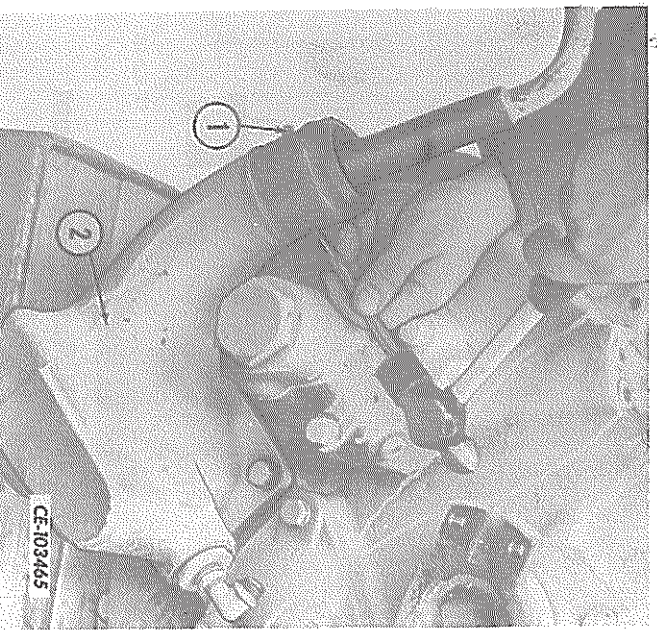

FIG. 15 — Removing the Shifter Housing Swivel Shaft
3. Remove the swivel shaft (1, Fig. 15) securing the shift lever to the shifter housing (2). Pull the lever from the housing. Remove the hardware securing the shifter housing to the transmission cover and remove the housing. Discard the housing gasket.